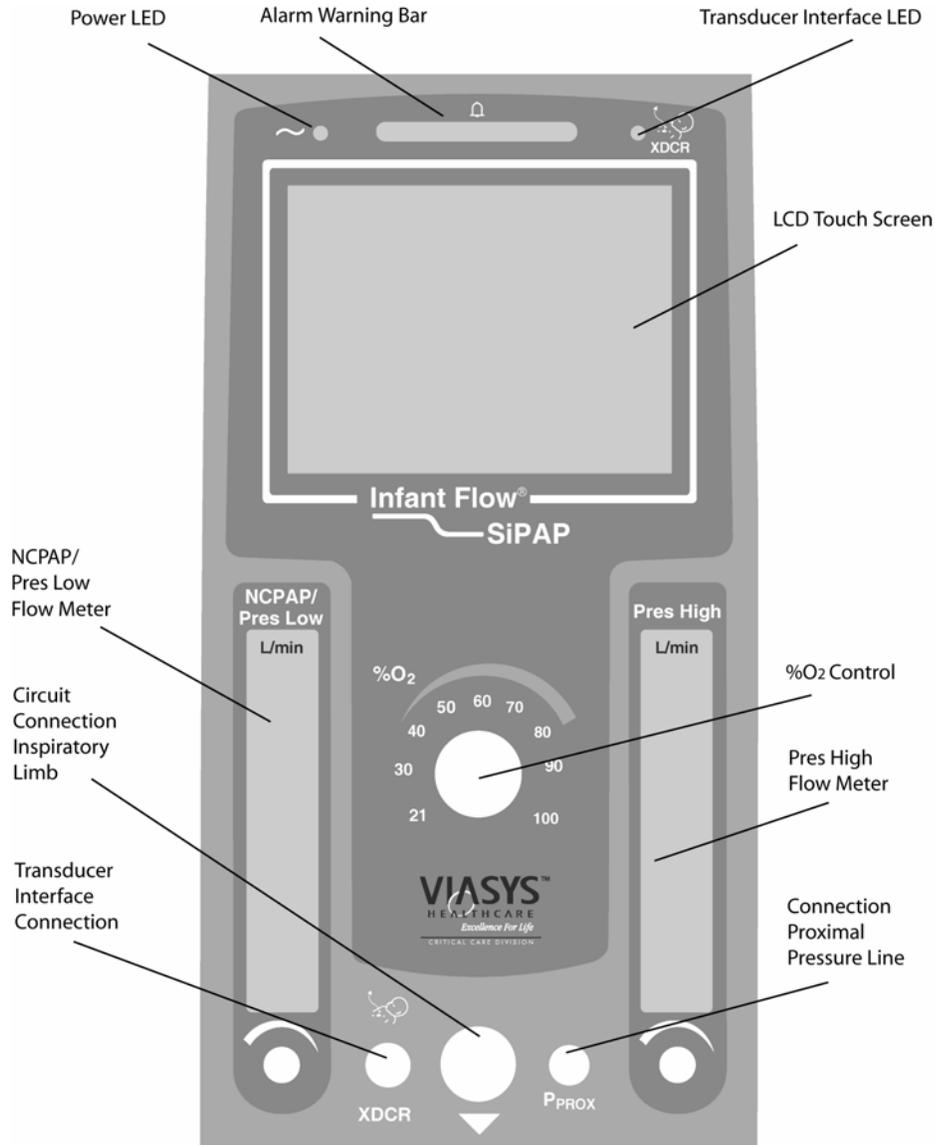
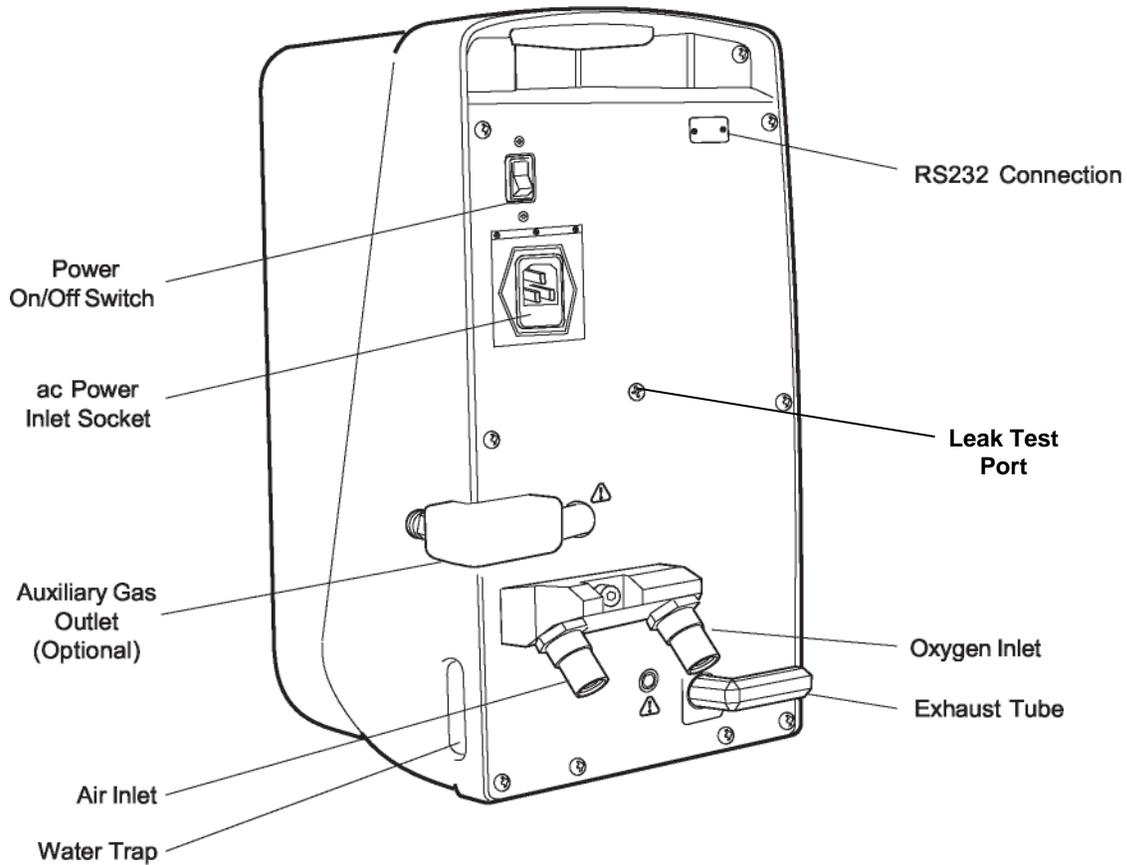

Figure 1 - IFSD Front Panel
Figure 2 - IFSD Back Panel
- Do not use the equipment without the exhaust tube fitted (refer to Figure 2).
The IFSD is enclosed in a case with Operator controls and input connectors on the front and rear panel. The front panel is shown in Figure 1. The back panel is shown in Figure 2. The case incorporates non slip feet for table top use or must be fitted to a dedicated stand. The major components within the casing are: